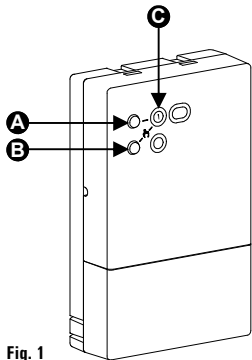

Fig. 1
LED (C in Fig. 1)
SELF-LEARNING BUTTON (A in Fig. 1)
MANUAL DRIVE BUTTON (B in Fig. 1)
- Press the self-learning button for a second (A) of Fig.1. The self-learning procedure is started: the receiver's LED will blink quickly yellow.